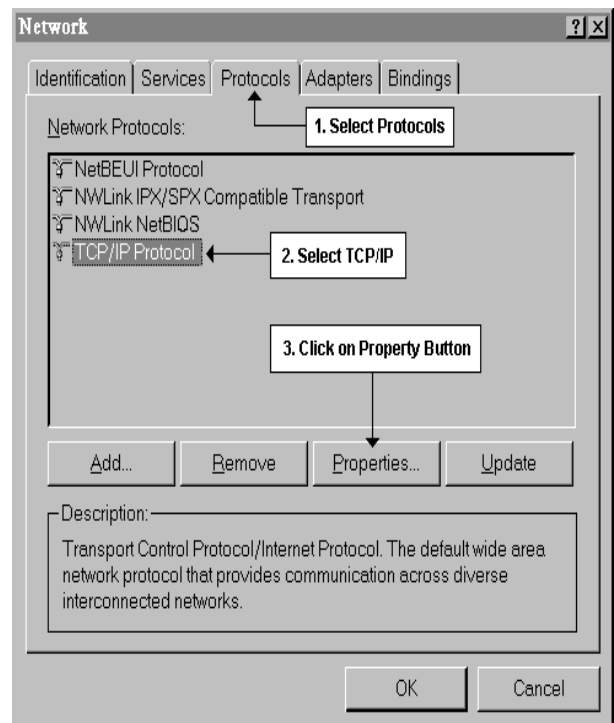

Figure 3-8 Windows NT®
- b. For Windows NT®: Select **Protocols| TCP/IP Protocol| Properties**. (Figure 3-8)